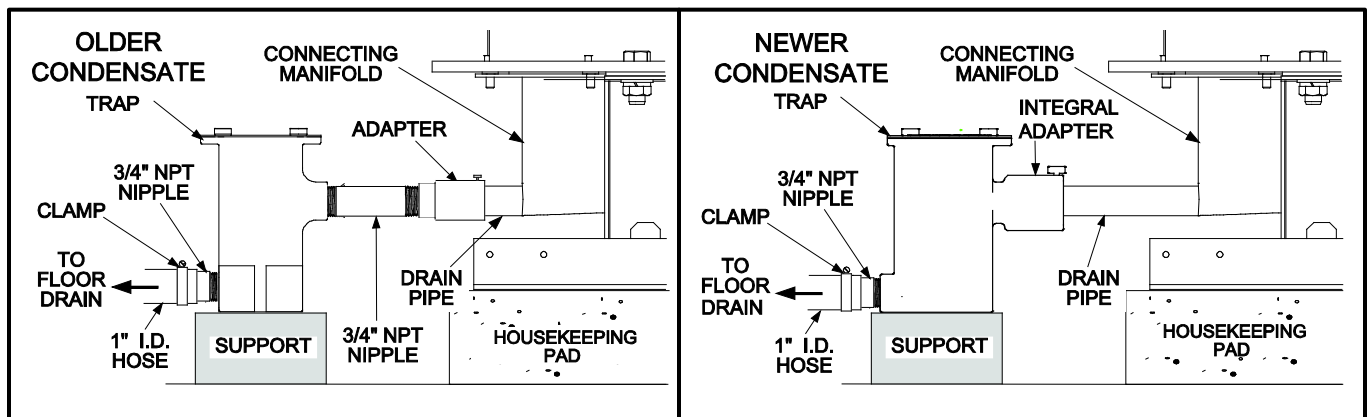

Figure 11: Exhaust Manifold Condensate Drain Connections. Old (left) and New (right) Style Trap – BMK3.0LN Partial Left Side View
1. Remove the connections on the inlet and outlet sides of the Condensate Trap shown in Figure 11.
7. Check the condensate drain port on the Exhaust Manifold (Figure 11) to ensure it is clear of blockage.